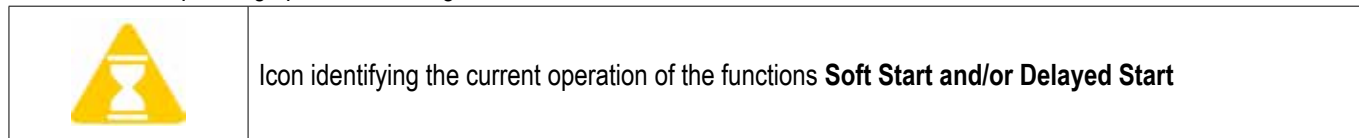

FIG. ALL3
- 16)** Soft Start. With the function enabled, the controls for the speed of the circulation pumps (CIRC PUMP HT and CIRC PUMP MIX) are gradually increased to the designated speed. The time to reach this speed can be selected from the relative drop-down menu. The function is independent for the mixed (MIX) and direct (HT) circuit. The activation of the function is notified in the overview for the peripheral device under examination, with the icon shown in (see chap. 6, fig. All3).
- 17)** Delayed Start. With the function enabled, the outputs dedicated to the HT circulation pump (OUT 7) and the MIX circulation pump (OUT 8) and the relative pump speed commands (CIRC PUMP HT and CIRC PUMP MIX) are activated with a delay equal to the value selected from the relative drop-down menu. The function is independent for the mixed (MIX) and direct (HT) circuit. The activation of the function is notified in the overview for the peripheral
device under examination, with the icon shown in (see chap. 6, fig. All3).
If the **Soft Start and/or Delayed Start** functions are active for the HT and/or MIX circuits, the icon in Fig. ALL3 is displayed, **during the period in which these functions are active on the outputs** OUT 7 and OUT 8 and on the corresponding speed control signals CIRC PUMP HT and CIRC PUMP MIX.